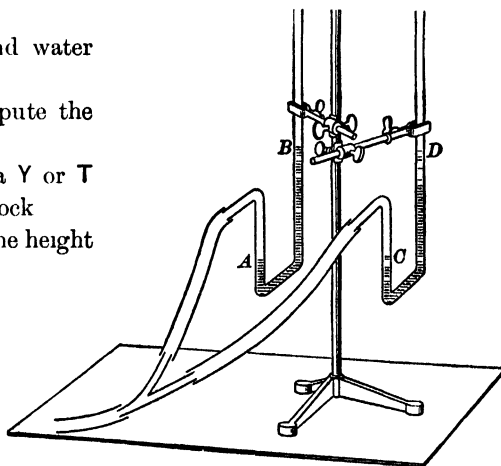

FIG 12
**II. Measurement of pressure in gas mains.** With a Y or T connector attach the manometers of Fig 12 to a gas cock
b If the manometer tubes of Fig 12 had had different diameters, would the result have been different ? State reasons